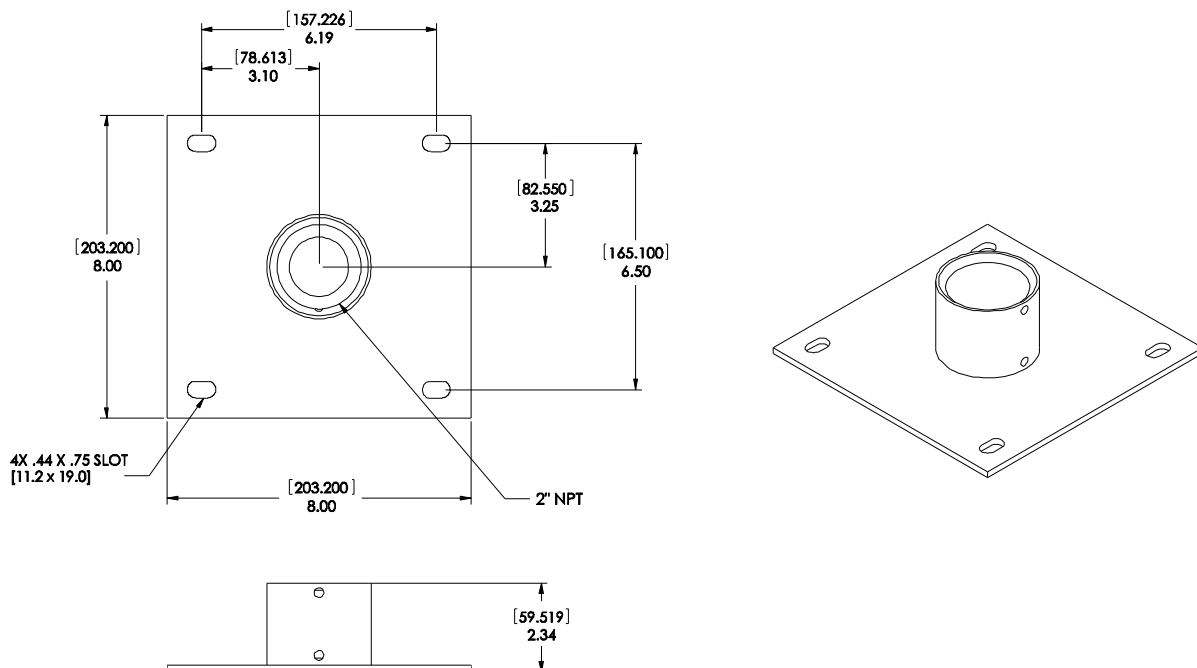

Figure 1. CMA-210 Dimensions
1. Securely install the ceiling plate to the ceiling joists. (**SEE WARNING ABOVE**) Bolt hole spacing is shown on Figure 1.